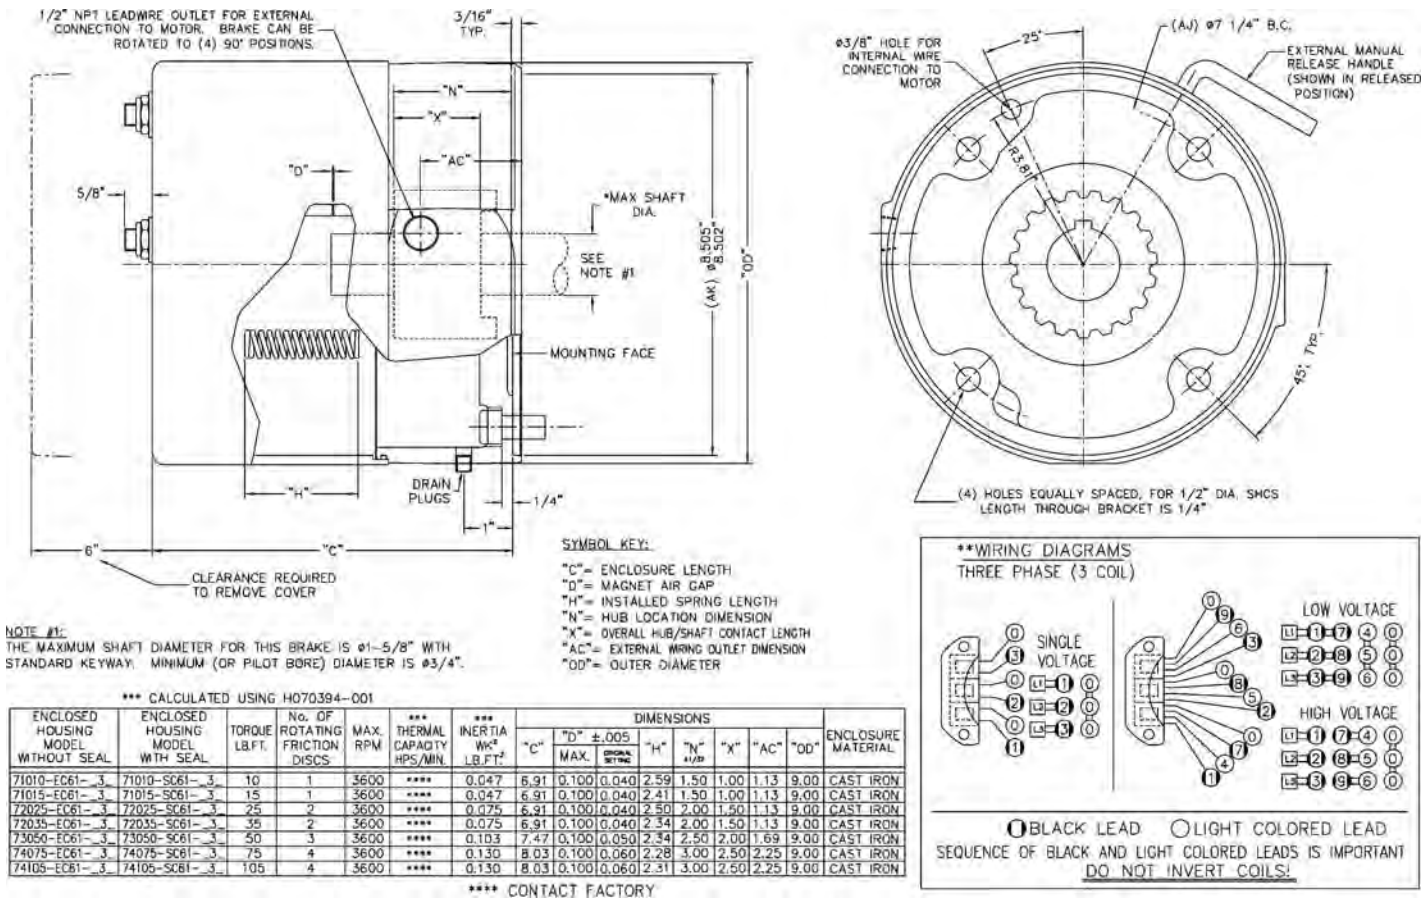

Figure 1 - Brake Outline
(See Figures 1, & 2, Table 1)
1. Remove hub (99) from brake and position on motor shaft with key according to dimension "N" per figure 1. Stamped part number on hub should face away from motor. Tighten hub set screws with 13 lb.ft. torque.
2. Remove temporary cover nut and cover (67). Set cover aside. Discard temporary nut.
3. If brake is supplied with a mounting face gasket (91), place gasket onto the brake mounting face.
5. Bolt brake to motor "C" face with four socket head cap screws. See Figure 1 to help in determining proper bolt length. Final bolt thread pitch, length and mounting torque is dependent on the material and depth of the threaded holes in the mounting face.
6. Connect coil leads per appropriate wiring diagram in Figure 1 and replace cover (67).
7. Use provided sealing washers (70) and nylon locking nuts (71) to secure cover (67).
Before air gap "D" reaches .100", adjustment is required. Any delay in adjusting the magnet air gap will result in eventual loss of torque. Refer to Fig. 1, 2 & 3.
The magnetic disc brake is factory set for rated static torque. The brake can be adjusted to reduce torque which increases stopping time. Do not attempt to adjust brake for higher torque, as this will cause premature coil burnout. (Refer to Fig. 1 & 2)
5. **Re-assembly of electromagnet assembly (15) Refer to Fig. 1 & 2.** Reinstall pressure plate (32) by rotating clockwise to engage both torque spring bolts (28) into slots in brake bracket (1). Replace all nuts, washers, and springs (42, 43, & 44). Nut (44) on the pivot post (17) should be adjusted, so the distance from the bottom of the pressure plate (32) to the top of the brake bracket (1) is 7/16". Reinstall magnet assembly (50A) and install nuts and washers (59, 60, & 61). Nut (61) should be torqued to 20 lb-ft.
7. Reset spring height according to brake model number in Fig.1 from the top of the spring (42) to the bottom of the pressure plate (32).
2. Remove cover locknuts/seals (70 & 71) and cover (67).
4. Replace with new magnet assembly (50A) and install nuts and washers (59, 60, & 61). Nut (61) should be torqued to 20 lb-ft.
5. Place coil lead wires around mounting bracket (1) to the same side as the wire outlet position or internal wire outlet. Connect coil lead wires per Fig. 1.
9. Replace cover (67) and cover locknuts/seals (70 & 71). Tighten nut (71) to 30 lb-in. Reconnect power.